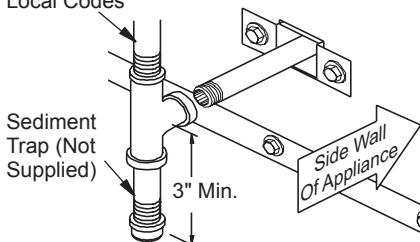

Figure 42 - Sediment Trap
Route a 1/2" NPT black iron gas line towards appliance coming in from the left. It is recommended to route pipe between stand of firebox and surround of fireplace (see Figure 42).
1. Install a sediment trap between incoming gas line and gas control valve (see Figure 42). The sediment trap should extend down center of pipe. Refer to your local codes.